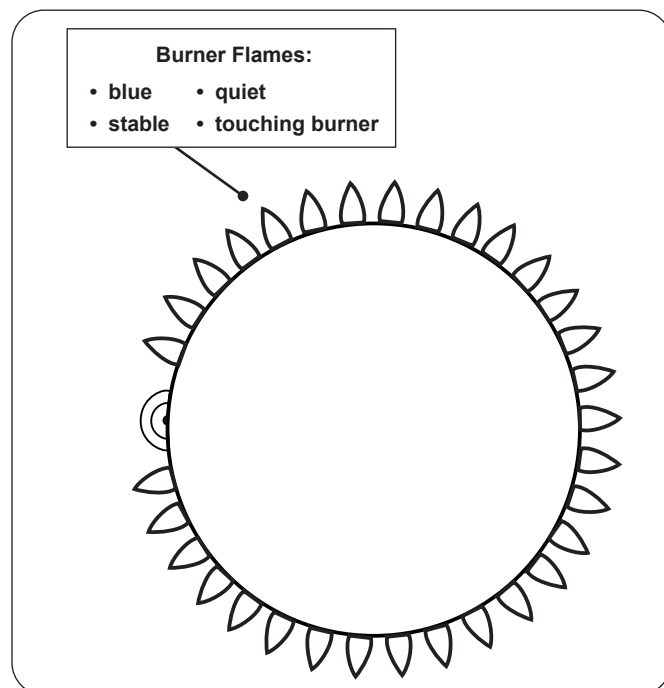

Fig. 37-1 Proper flame appearance
**Note:** To verify proper settings, the flames of the burners should be visually checked for proper flame appearance and behavior. Light the unit with the burner(s) on HI setting. Allow at least 2 minutes to burn. See below and Fig. 37-1. The flames should: